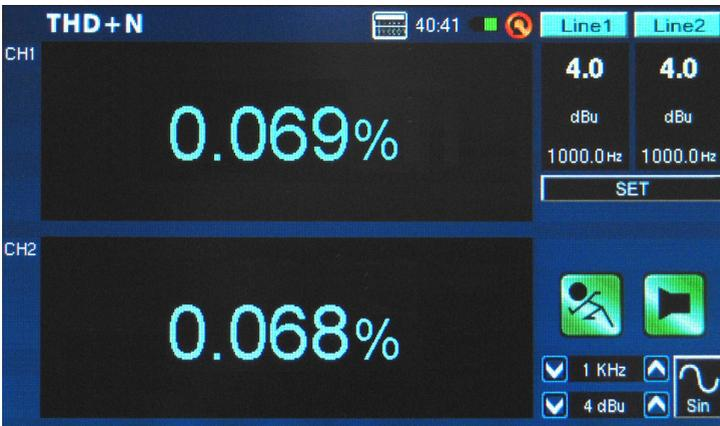

figure 45
6. To the right of the display you should find the PAA6 is receiving a 4 dBu signal of whatever frequency you are sending through it (1000.0 Hz, for example). Provided the values listed here are exactly what you sent out from your signal generator, the THD+N results given on screen will be accurate (figure 45).